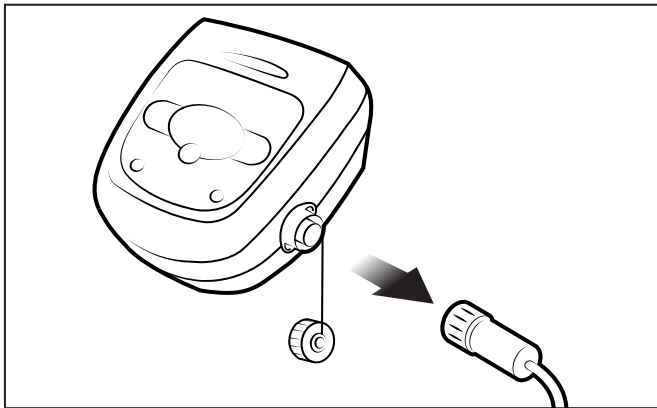

Figure 11. Unplug
3. Unplug power to the cleaner at the control box (Figure 11).